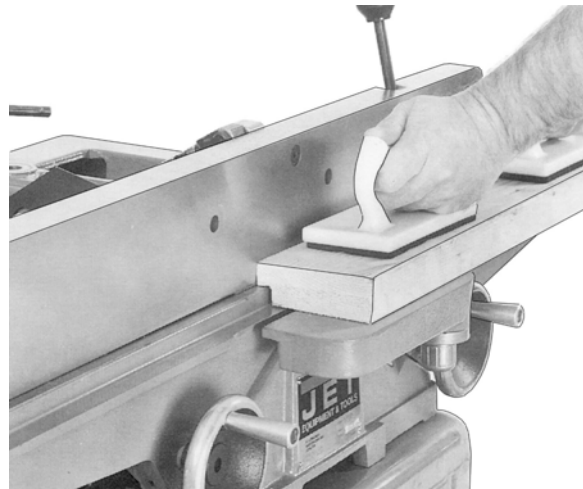

Figure 37
A rabbet is a groove cut along the edge of a board. See Figure 37. The width and thickness of the wood to be rabbeted depends upon the width and length of the rabbet. However, never rabbet a piece of wood less than 12" long.
4. Re-connect power. It is easier and safer to take a series of shallow cuts. Lower the infeed table 1/32" at a time and make successive cuts until the desired depth of rabbet has been obtained. See Figure 37.